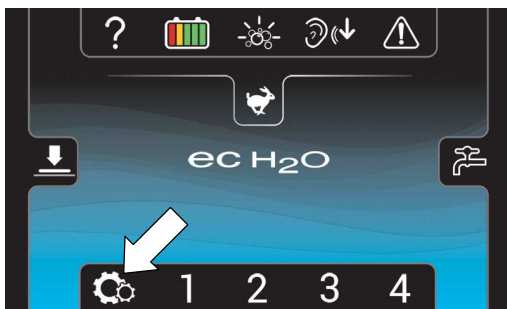

FIG. 137
1. Park the machine on a level surface and turn the key to the on (I) position. The home screen will display at start up (Figure 137). This is the factory default screen at start up.
2.  Press the settings button located on the home screen (Figure 137).